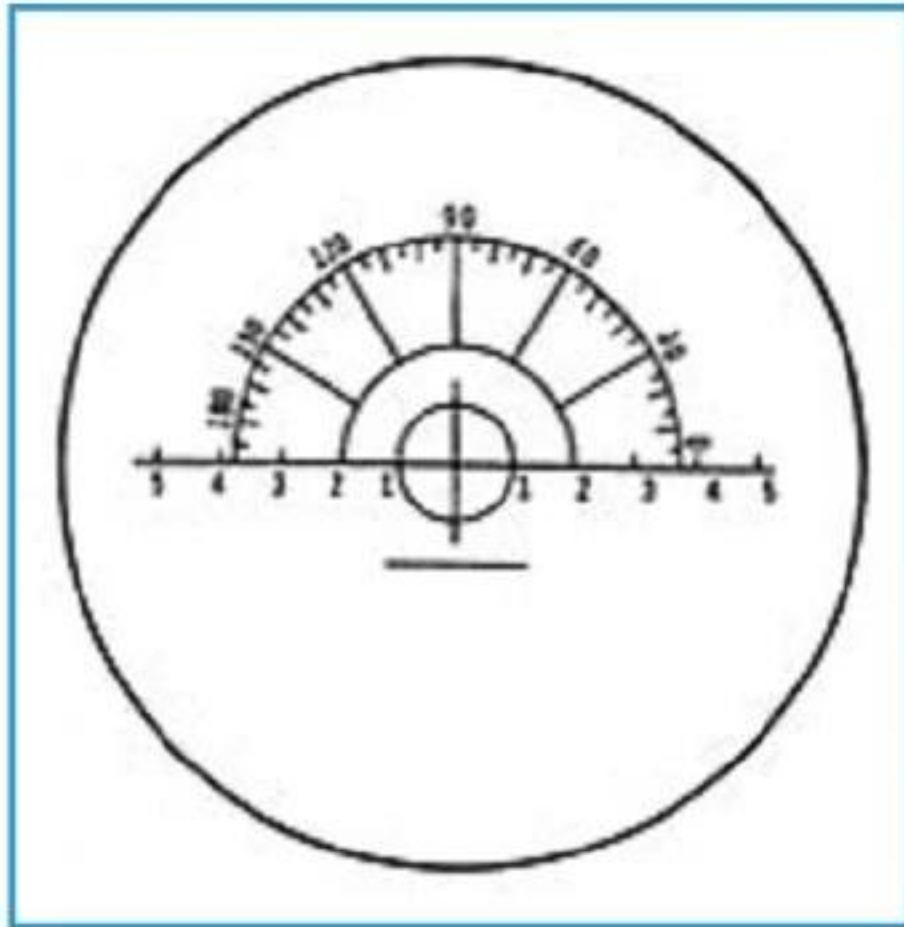
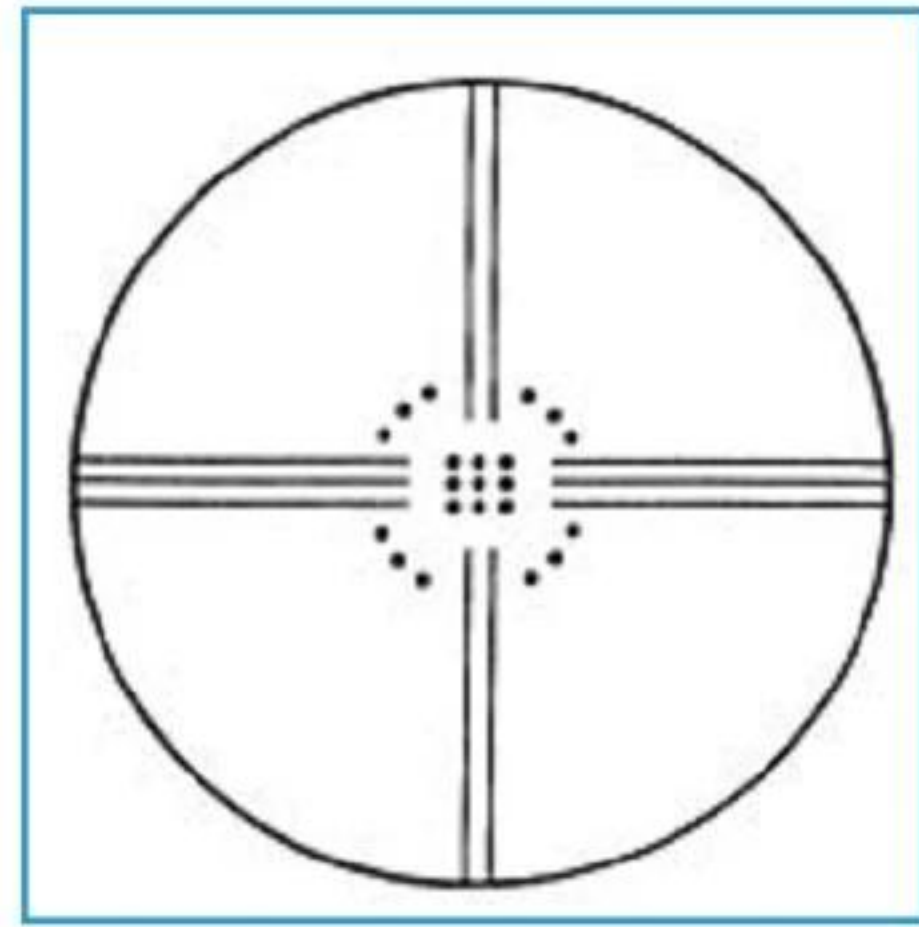

Fig. 3
Fig. 4
3.2 Eyepiece reticule and marker reticule (Fig.3, Fig.4)
Reticule in the field of view of eyepiece is shown as Fig.3. On the reticule is divided with measuring scale and dividing disc of prism degree. Integer degree of prism is directly read on the measuring scale and decimal one estimated according to the degree on the measuring scale. The dividing disc is ruled with an interval of 5° . The marker reticule is shown as Fig.4, 3 long green lines are in the horizontal position.